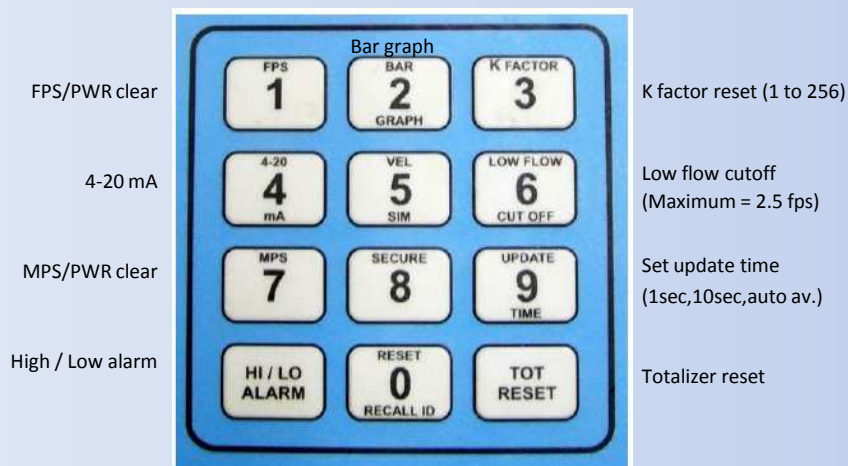

Figure 5. Display unit keypad
- Figure 5 provides a visual representation of the toggle menu.